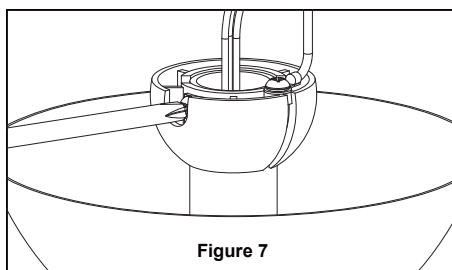

Figure 7
- ☐ 7. Reinstall the hanger ball on the downrod as follows. Route the brown, blue, red, gray and yellow wires through the hanger ball. Position the pin through the two holes in the downrod and align the hanger ball so the pin is captured in the groove in the top of the hanger ball. Pull the hanger ball up tight against the pin. Securely tighten the set screw in the hanger ball. A loose set screw could create fan wobble. (Figure 7)